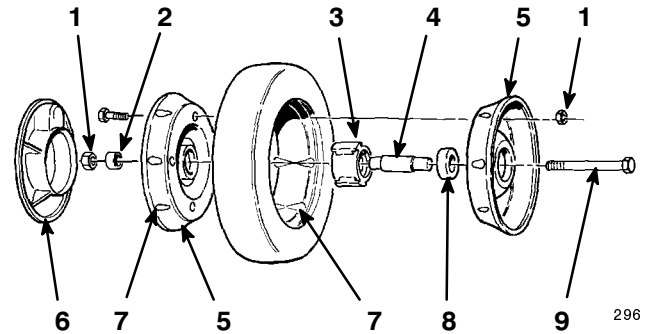

Figure 42
3. Remove the cap screw, the wheel spacer, and the locknut mounting the wheel to the pivot arm (Fig. 42).
4. Separate the wheel halves from the tire by removing four cap screws and four locknuts (Fig. 42).
Note: If you remove the bearings from the bearing/hub assembly, remove them by pressing on the bearing spacer (Fig. 42).
1. Position the tire onto one wheel half, aligning the lugs on each (Fig. 42).
2. Place the bearing/hub assembly into the center hole of the wheel half. Ensure that the legs of the hub are positioned over the flange of the hole (Fig. 42).
3. Place the other wheel half onto the bearing/hub assembly, aligning the wheel and the tire lugs and the mounting holes (Fig. 42).
4. Using two 1/4-20 x 1.50 in. fully threaded screws or bolts and non-locking nuts, loosely secure the wheel halves together. Mount the screws or bolts in the opposing holes (Fig. 42).
5. Check the alignment of all parts and tighten the screws, alternating from side to side for a uniform fit, until the wheel halves are drawn together (Fig. 42).
6. Install the two cap screws and two locknuts previously removed in the remaining holes in the wheel halves and tighten. Remove the two long screws or bolts and replace them with two cap screws and two locknuts (Fig. 42).
7. Install the wheel to the pivot arm with the cap screws, a spacer, and a locknut. Ensure that the spacer is positioned between the wheel hub and the pivot arm (Fig. 42).